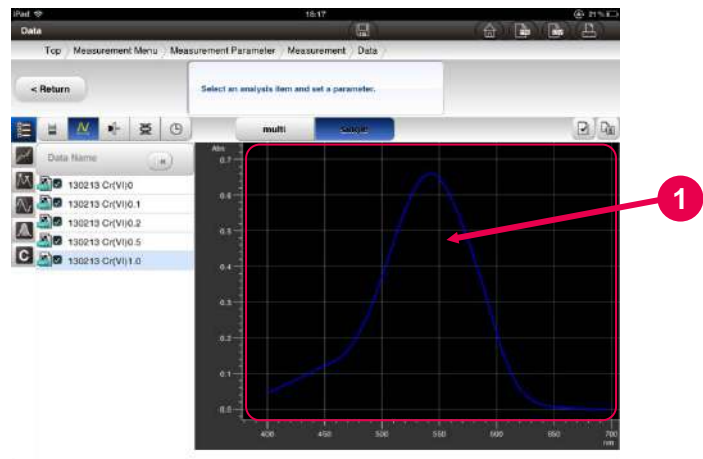
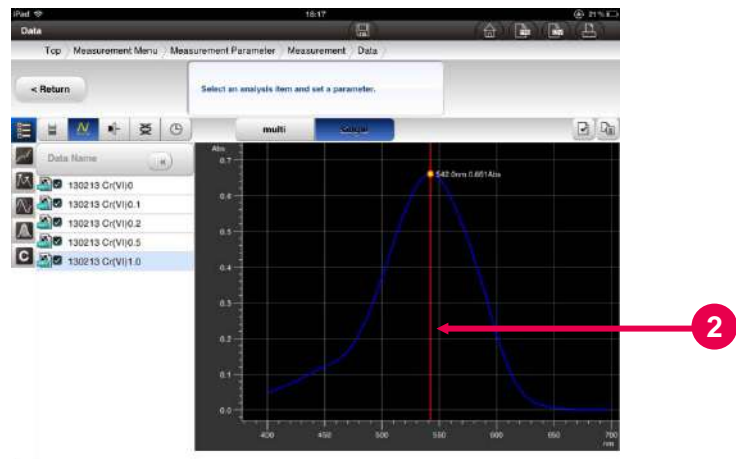

Fig. 5-53 Spectrum Measurement Data Check Window
Fig. 5-54 Spectrum Measurement Data Check Window (Displaying the Trace Bar)
- (1) When you double-tap on the spectrum window in the Spectrum Measurement Data Check window (Fig. 5-53), the trace bar is displayed (Fig. 5-54). The wavelength and the photometric value in the current trace bar position are displayed at the intersection of the trace bar and the spectrum. As a result, the photometric value at the target wavelength can be read. You can move the trace bar by moving a figure to the left or right over the bar.
- (2) To hide the trace bar, double-tap on the bar.